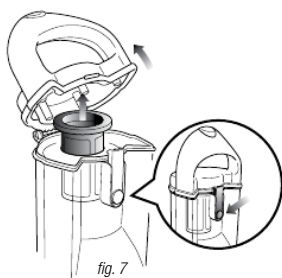

fig. 7
- 5 If you notice hair or other debris wrapped around the metal screen in the upper chamber of the dust cup, press the upper dust cup door release to open the top of the dust cup. Lift out the metal screen, clear any debris and replace. Snap the door back into place. (fig. 7)